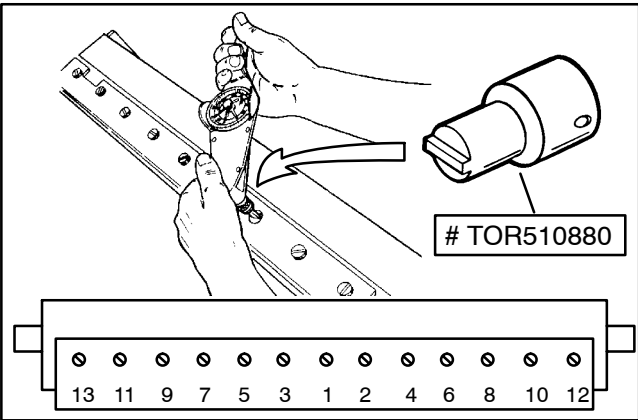

Figure 25
3. Using a torque wrench and bedknife screw tool, tighten screws to a torque of 200 to 250 in-lb (230 to 288 kg-cm). Use a torquing pattern working from the center toward each end of the bedknife (Fig. 25).